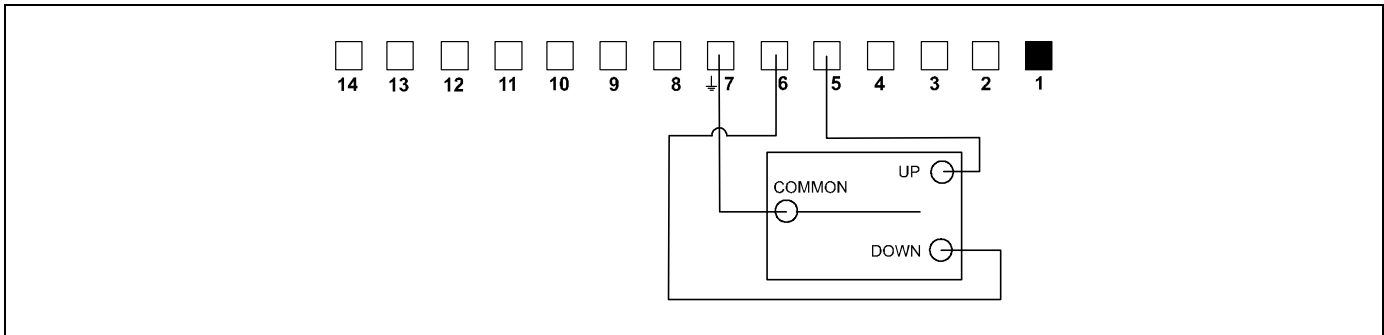

Figure 32
7. Connect the common wire from your switch to terminal 7. (See figure 32)